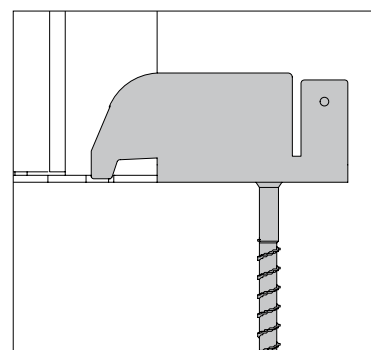

Fig. A4.21
3. Fix the frame holder HSA (55) with anchor bolt 14/20 x 130 (52) (art. no.124777) on the concrete floor. (Fig. A4.21)